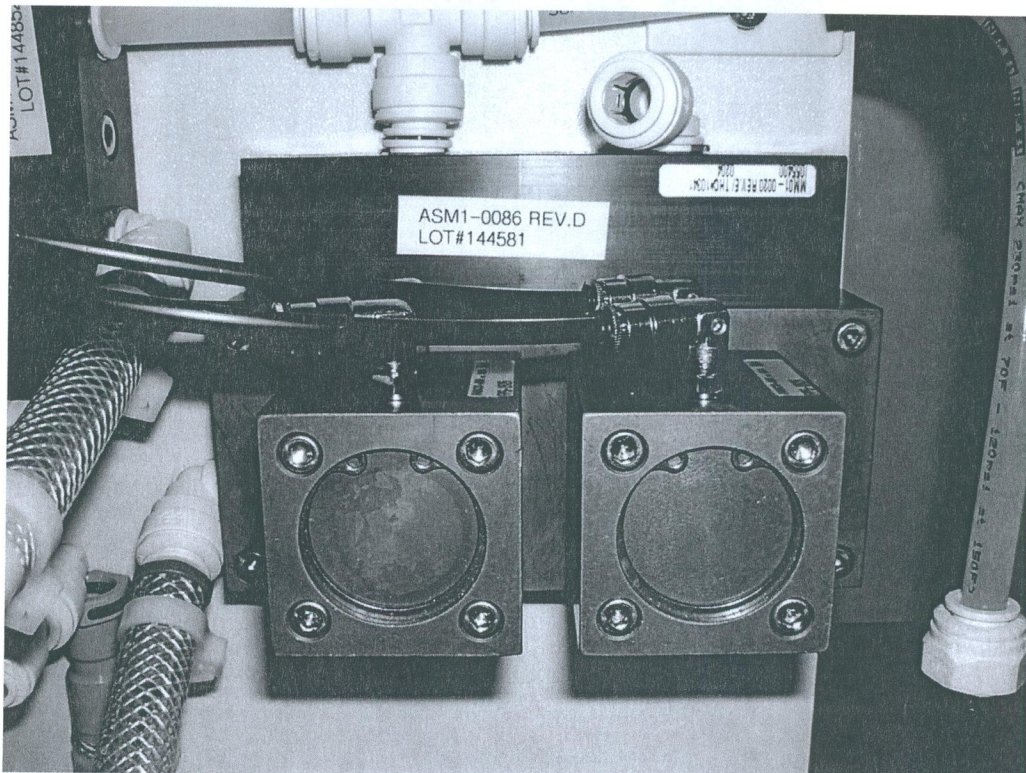

Fig 17 "B" Station Water & Disinfectant manifold
- Repeat the above procedure for each valve on the A and B main manifold and the side B station water & disinfectant valve. Refer to figure 17.